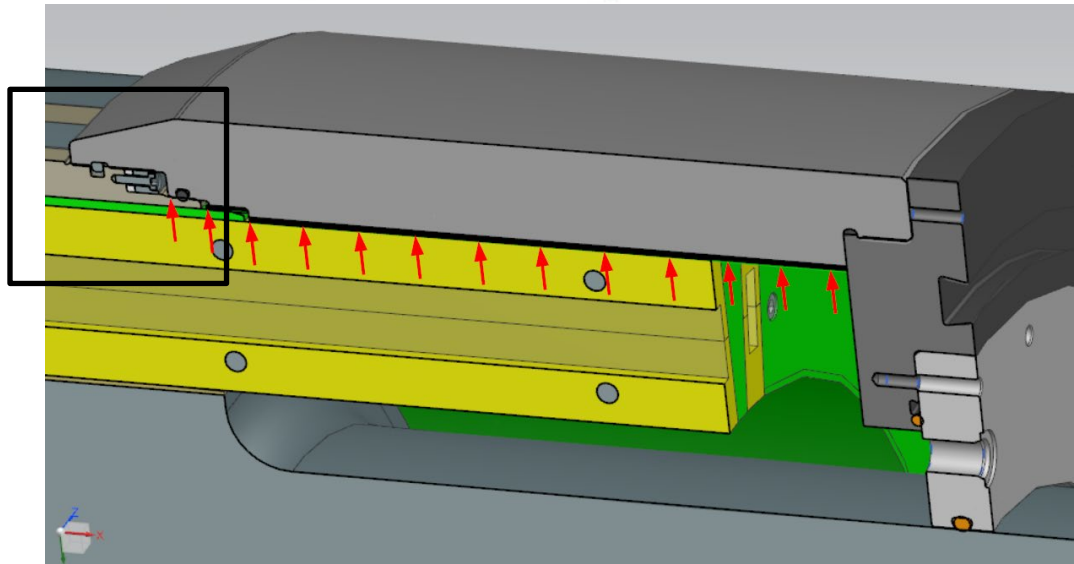

Figure 3: Pressurized Rotor
In figure 2, a version of the plug seal is shown. The seal itself is item 1002. The version of a plug seal shown relies on a bolt and washer (item 1004) compressing the plug and creating lateral Poisson's expansion of the plug to seal against the rotor shaft (item 120) and the retaining ring (item 114). Remaining numbered items will be described to participants at the start of the project for further understanding of the rotor design but are not critical to the design of the plug. The rotor is internally pressurized as shown in Figure 3. The red arrows indicate the direction of air pressure.